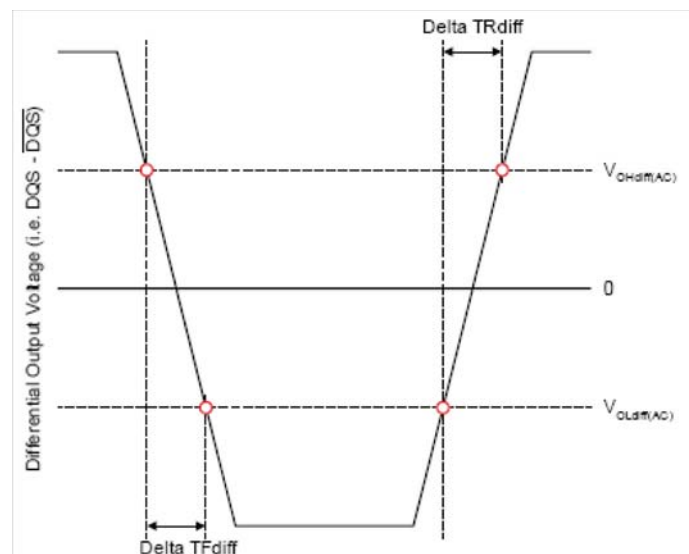

Figure 96 — Differential Output Slew Rate Definition
With the reference load for timing measurements, output slew rate for falling and rising edges is defined and measured between VOLdiff(AC) and VOHdiff(AC) for differential signals as shown in Table 34 and Figure 96.